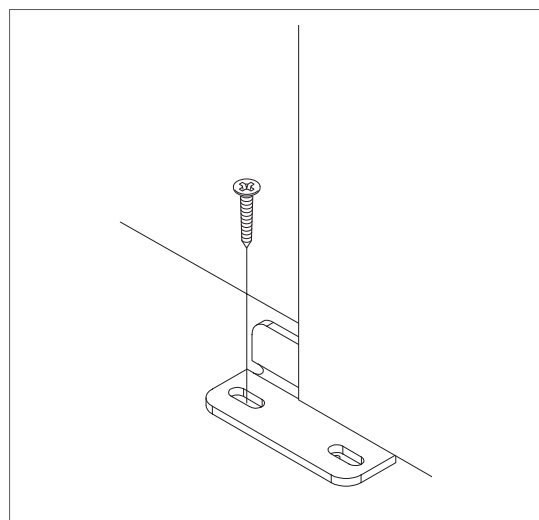

Figure 7
13. Position the Door Guide part way into the groove in the bottom of the door. (Figure 7).